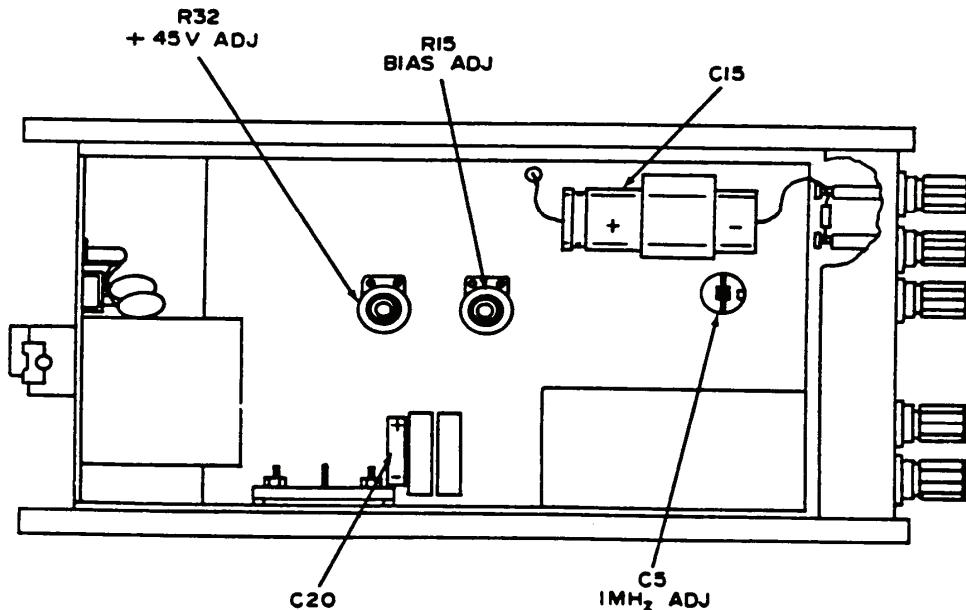

Figure 5. Hewlett-Packard Model 465A - top view.
(1) Set function/arbitrary generator frequency for 1 MHz and output for 1 V (verify with true rms voltmeter).
(2) Adjust C5 1MHzz ADJ(fig. 5) until true rms voltmeter indicates 8.5 V (R).
- (1) Connect multimeter between positive side of C20 (fig. 5) and chassis ground. If multimeter does not indicate between 44 and 46 V, perform **b** (1) below.
- (2) Move positive lead to positive side of C15 (fig. 5). If multimeter does not indicate between 22.5 and 23.5 V dc, perform **b** (2) below.
- (1) Adjust R32 +45 V ADJ (fig. 5) until multimeter indicates 45 V dc (R).
- (2) Adjust R15 BIAS ADJ (fig. 5) until multimeter indicates 23 V dc (R).